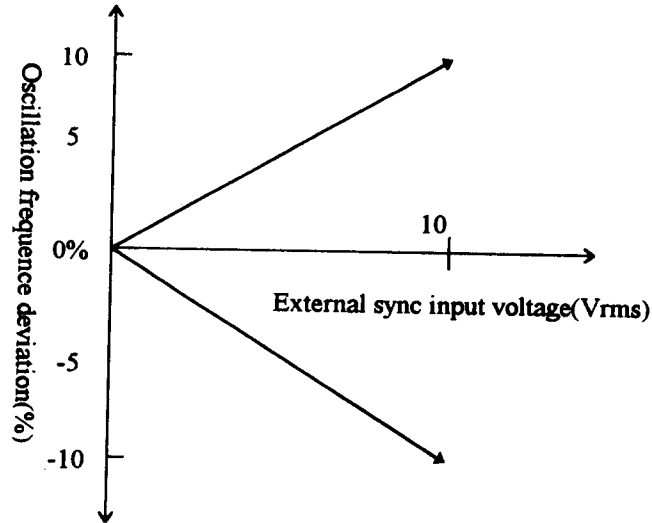

Fig.3
1. Connect a voltmeter capable of measuring AC 1V rms to OUTPUT terminal (4); Set ATTENUATOR (3) to 0dB and then adjust AMPLITUDE (7) until the voltmeter indicates 1V rms. A voltage of 1V rms will appear at OUTPUT terminal (4).
2. Set ATTENUATOR (3) to -40dB. The voltmeter indicates about 0V, while a voltage of 10mV rms appears at OUTPUT terminal (4).
5. Use of Synchronizing Input Terminal By applying an external sine wave signal to SYNC terminal (10), the oscillating frequency of instrument can be synchronized to the external signal. The synchronizing range is increased in proportion as the input voltage is increased as shown in Fig. 3, indicating that the synchronizing range is about  $\pm 1\%$  per input voltage of 1V.